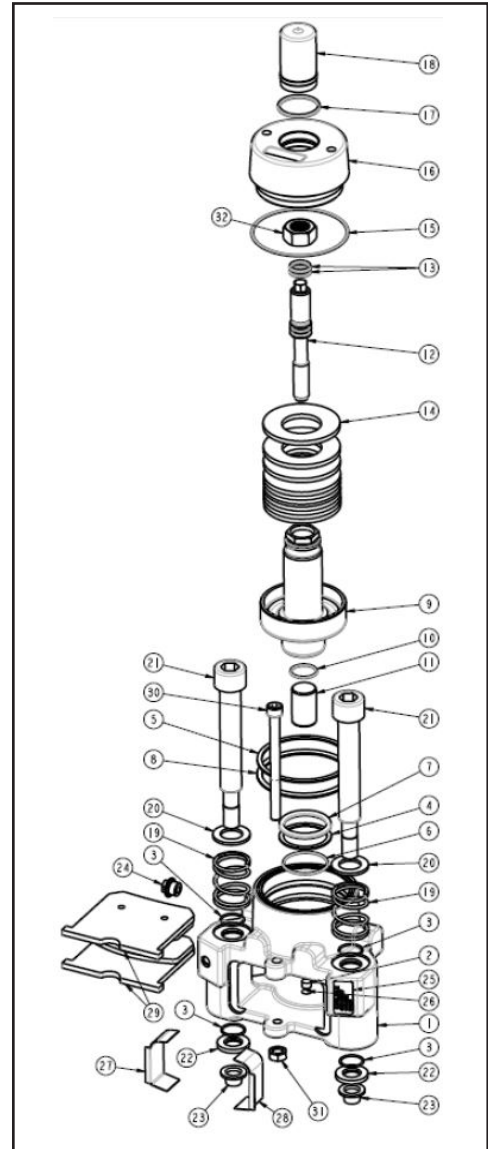

Figure 113
17. Install seal O-ring (item 3) in grooves in the mounting bolt counter-bores of the torque plate (item 1) see (Figure 113)